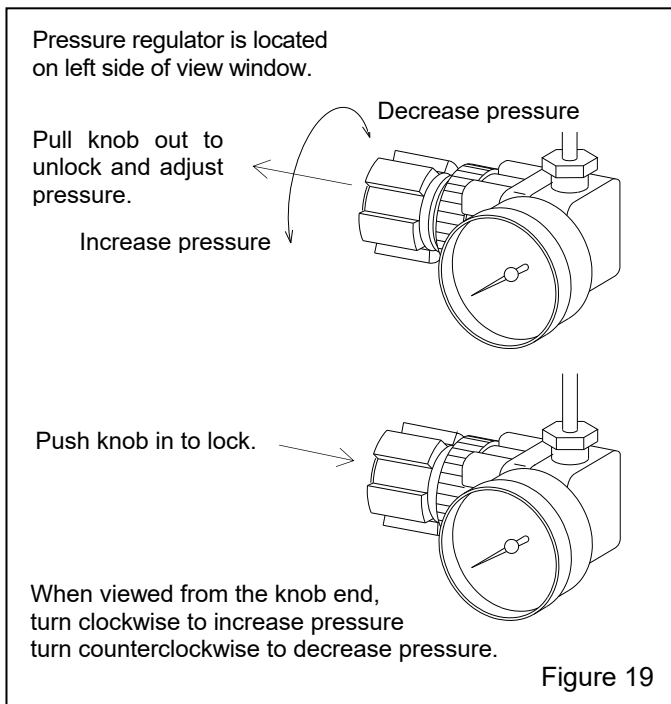

Figure 19
5.1.3 Pressure registers on the gauge only while blasting. To adjust pressure, begin blasting and hold the nozzle securely with the right hand. Use the left hand to unlock the knob by pulling it out, as shown in Figure 19, Turn it clockwise to increase pressure or counterclockwise to decrease pressure. Once operating pressure is set, push the knob in to lock it and maintain the setting. **NOTE: The operator may find it easier to adjust pressure if the knob is unlocked before blasting and when pressure is set, stop blasting to lock the knob.**